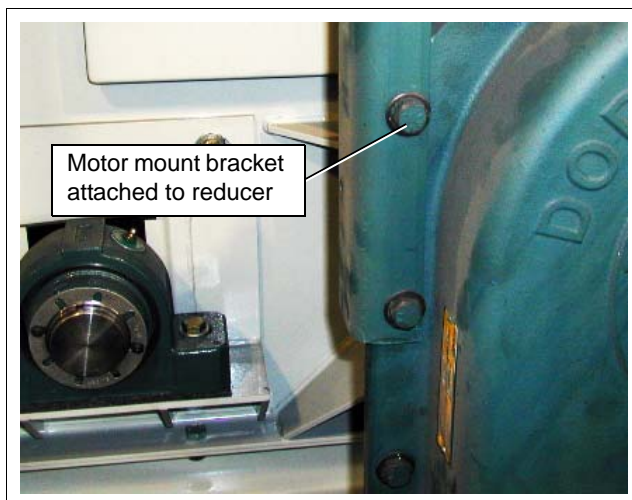

Figure 6P
Remove three (3) bolts from each side of the reducer housing. Use a set of holes in the motor mount upright brackets that allows the motor plate to be as close as possible to the top of the conveyor. (See Figure 6P.) Check this location by temporarily positioning the belt guard on the reducer with the hole in the guard centered over the reducer input shaft. This will show the correct motor position for the lengths of V-belts provided. Attach by replacing bolts through brackets and housing. Tighten bolts securely. (NOTE: Motor mount angle may have to be trimmed for torque arm.) (See Figure 6O on Page 22.)